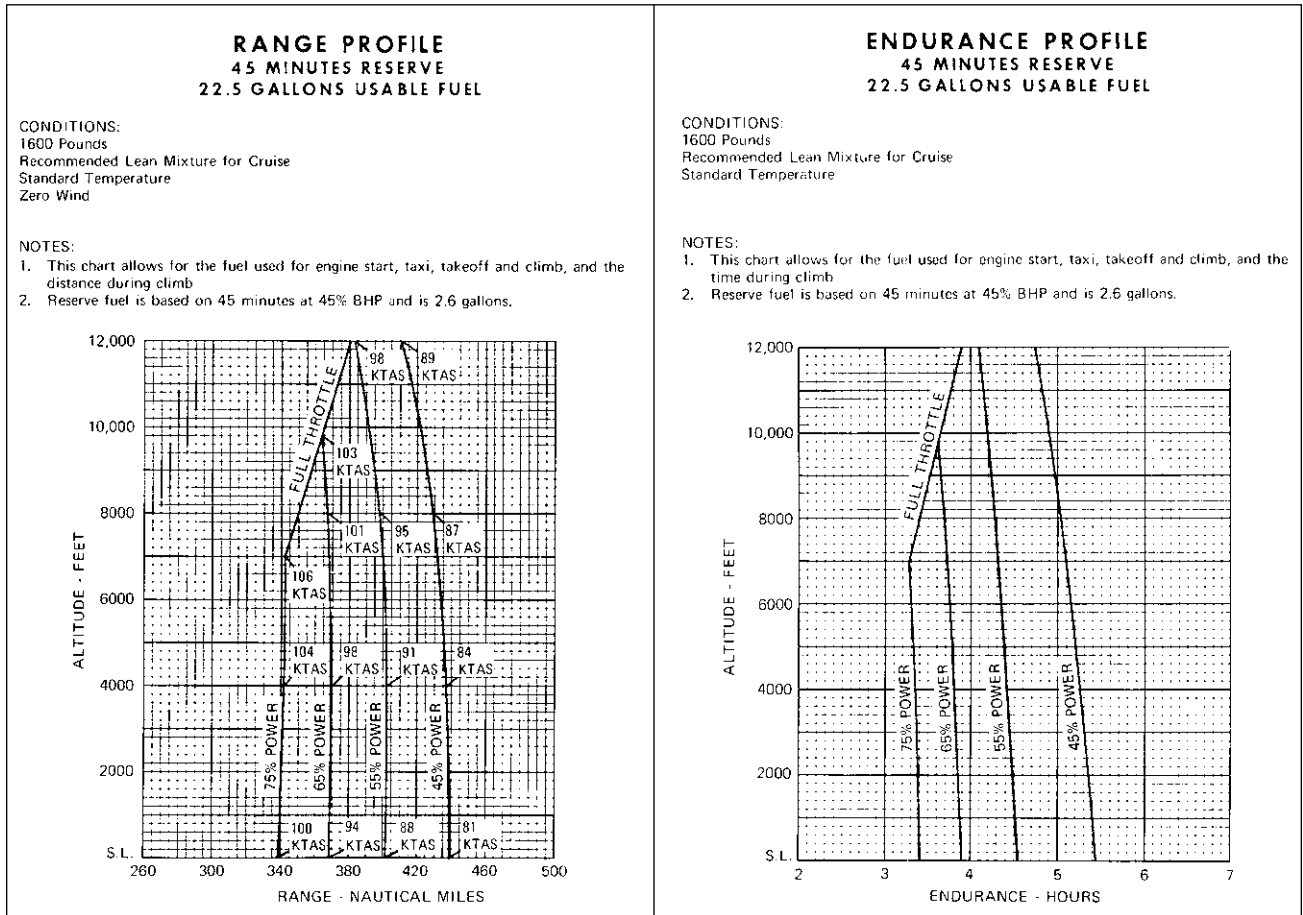

Figure 23-15. Range and endurance profile charts for the airplane or use Figures 23-10 and 23-14.
Figure 23-15 includes range and endurance profile charts. Note (1) in each chart indicates that the chart allows for the fuel used for engine start, taxi, takeoff, and climb distance (range profile), and climb time (endurance profile) as would be taken from the time, fuel, and distance to climb chart (Figure 23-10).
Looking at Figure 23-15 you can see some interesting points.
Maximum endurance is found at lower altitudes and at power settings of 40–45 percent power for this airplane (look at Figure 23-15).
A point you might notice by checking Figure 23-15 is that the maximum range (miles) for the various altitudes is found at a power setting of 45 percent of the rated brake horsepower. Looking back at Figure 12-13, you note that this is the area indicated by point (2) for maximum range conditions. The thumb rule cited for maximum range was a calibrated airspeed of 1.5 times the power-off, flaps-up stall speed. The stall speed for this example airplane (flaps-up, etc.) is 47 K. Converting the true airspeeds for the various altitudes, you would find that the thumb rule is close to optimum.